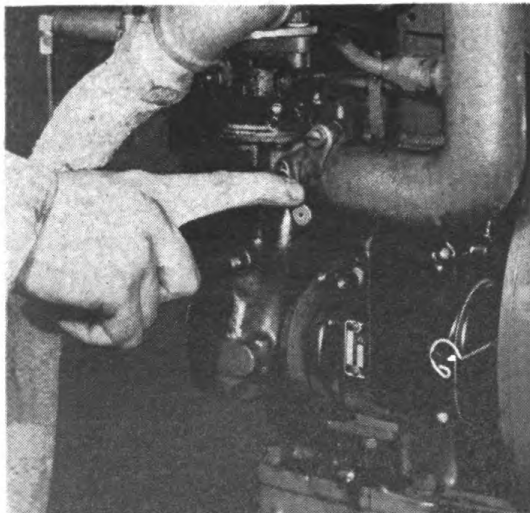

Figure 11
c. Close choke on the engine carburetor air inlet horn by turning the lever down (See Figure 11). (The choke opens automatically after the engine starts.)
If the choke on the carburetor accidentally snaps open during cranking before the engine starts, the choke should again be closed (See Figure 11) for two or three turns of the crankshaft. Do not keep choke closed too long. If fuel begins to drip from carburetor, choke should be opened. More choking is necessary for starting the engine in cold weather than in warm weather.